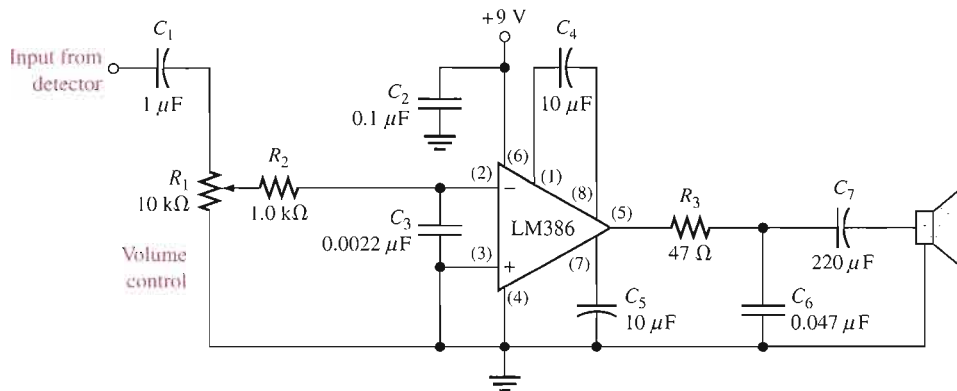

FIGURE 17–39
The **mixer** is basically a frequency converter because it changes the frequency of a signal to another value. The mixer in a receiver system takes the incoming modulated RF signal (which is sometimes amplified by an RF amplifier and sometimes not) along with the signal from the local oscillator and produces a modulated signal with a frequency equal to the difference of its two input frequencies (RF and LO). The mixer also produces a frequency equal to the sum of the input frequencies. The mixer function is illustrated in Figure 17–28.
◀ **FIGURE 17–28**
In the case of receiver applications, the mixer must produce an output that has a frequency component equal to the difference of its input frequencies. From the mathematical analysis in Section 17–3, you can see that if two sinusoidal signals are multiplied, the product contains the difference frequency and the sum frequency. Thus, the mixer is actually a linear multiplier as indicated in Figure 17–29.
◀ **FIGURE 17–29**
A typical application of the LM386 as a power amplifier in a radio receiver is shown in Figure 17–39. Here the detected AM signal is fed to the inverting input through the volume control potentiometer, R_1 , and resistor R_2 . C_1 is the input coupling capacitor and C_2 is the power supply decoupling capacitor. R_2 and C_3 filter out any residual RF or IF signal that may be on the output of the detector. R_3 and C_6 provide additional filtering before the audio signal is applied to the speaker through the coupling capacitor C_7 .
Figure 17–40 illustrates both a square wave and a sine wave modulating the frequency of a carrier. The carrier frequency is highest when the modulating signal is at its maximum positive amplitude and is lowest when the modulating signal is at its maximum negative amplitude.
▲ **FIGURE 17–40**
Frequency modulation is achieved by varying the frequency of an oscillator with the modulating signal. A voltage-controlled oscillator (VCO) is typically used for this purpose, as illustrated in Figure 17–41.
▶ **FIGURE 17–41**
Generally, a variable-reactance type of voltage-controlled oscillator is used in FM applications. The variable-reactance VCO uses the varactor diode as a voltage-variable capacitance, as illustrated in Figure 17–42, where the capacitance is varied with the modulating voltage, V_m .
▶ **FIGURE 17–42**
Capacitance decreases as reverse voltage (control voltage) increases. Therefore, an increase in control voltage to the VCO causes an increase in frequency and vice versa. Basic VCO operation is illustrated in Figure 17–45. The graph in part (b) shows that at the nominal control voltage, $V_{c(nom)}$, the oscillator is running at its nominal or free-running frequency, $f_{o(nom)}$. An increase in V_c above the nominal value forces the oscillator frequency to increase, and a decrease in V_c below the nominal value forces the oscillator frequency to decrease. There are, of course, limits on the operation as indicated by the minimum and maximum points. The transfer function or conversion gain, K , of the VCO is normally expressed as a certain frequency deviation per unit change in control voltage.
► **FIGURE 17–45**